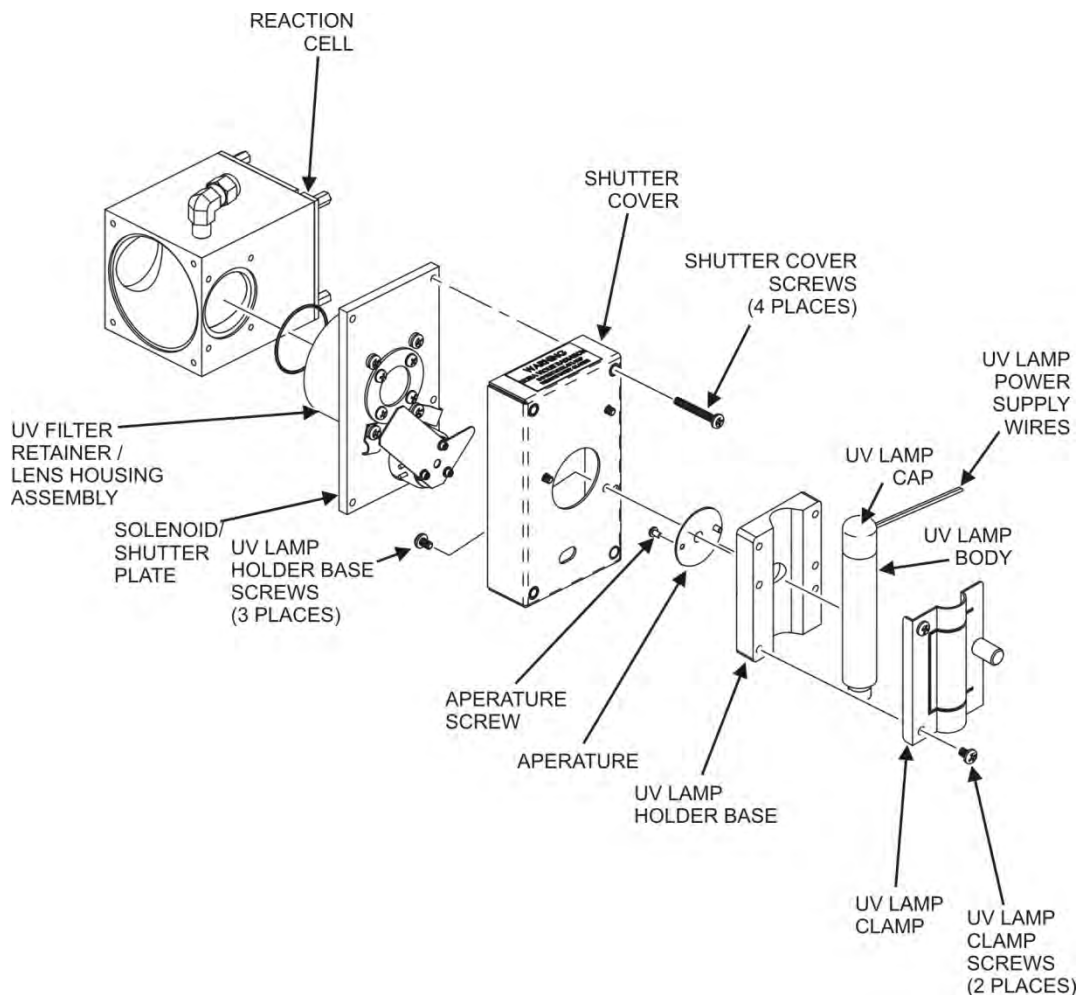
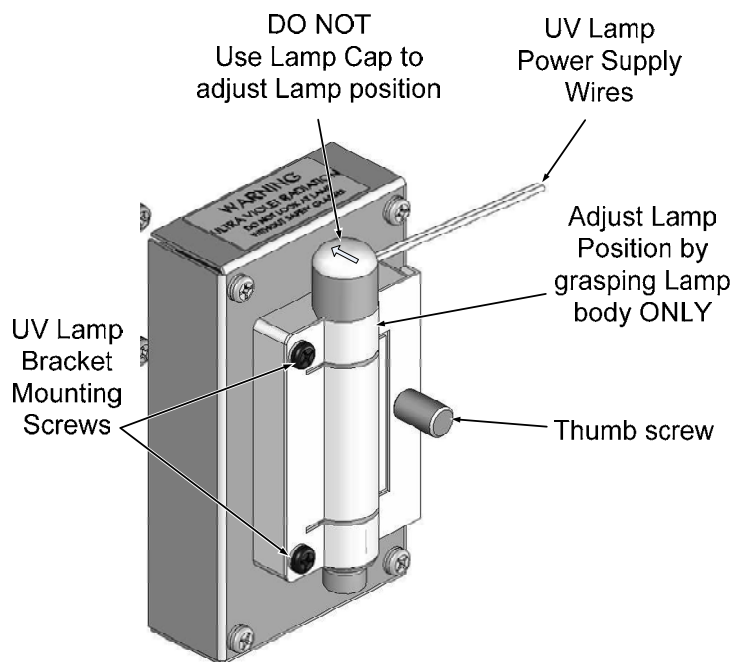

Figure 10-12: Shutter Assembly
Figure 10-13. UV Lamp Adjustment
4. Remove 4 screws from the shutter cover (refer to Figure 10-12) and remove the cover.
2. Slightly loosen the large brass thumbscrew located on the shutter housing (refer to Figure 10-13) so that the lamp can be moved.
**DO NOT** grasp the UV lamp by its cap when changing its position - always grasp the main body of the lamp (refer to Figure 10-12). Inattention to this detail could twist and potentially disconnect the lamp's power supply wires.
4. Loosen, but do not remove the two UV lamp bracket screws and the large brass thumbscrew located (refer to Figure 10-12 and Figure 10-13) on the shutter housing so that the lamp can be moved.
**DO NOT** grasp the UV lamp by its cap when changing its position - always grasp the main body of the lamp (refer to Figure 10-12) Inattention to this detail could twist and potentially disconnect the lamp's power supply wires.